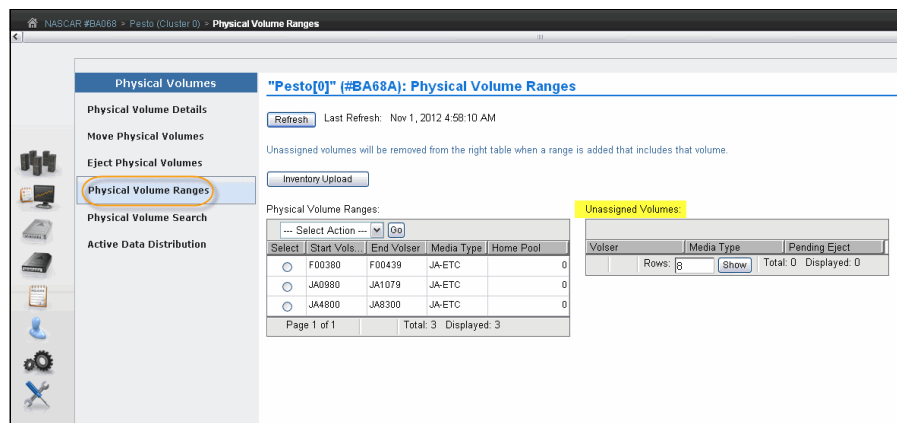

Figure 11-19 Physical Volume Ranges window
5. For a TS7700T cluster, click **Physical** → **Physical Volumes** → **Physical Volume Ranges** and then click **Inventory Upload**, as shown in Figure 11-19 on page 581.
8. For a TS7700T cluster, click **Physical** → **Physical Volumes** → **Physical Volume Ranges** and click **Inventory Upload**, as shown in Figure 11-19 on page 581.
Use the window that is shown in Figure 11-19 to add, modify, and delete physical volume ranges. Unassigned physical volumes are listed in this window. If a volume is listed as an unassigned volume, and this volume belongs to this TS7700, a new range should be added and include that volume to fix it. If an unassigned volume does not belong to this TS7700 cluster, it should be ejected and reassigned to the proper logical library in the physical tape library.